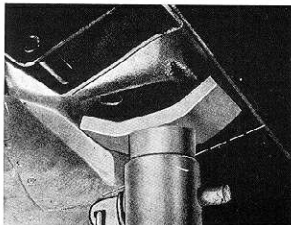

Fig. 8. Location of black stand, 140-series
10. Jack up the vehicle with four blocks (for 140-series under the front jack attachments and in front of the rear jack attachment according to Fig. 8).